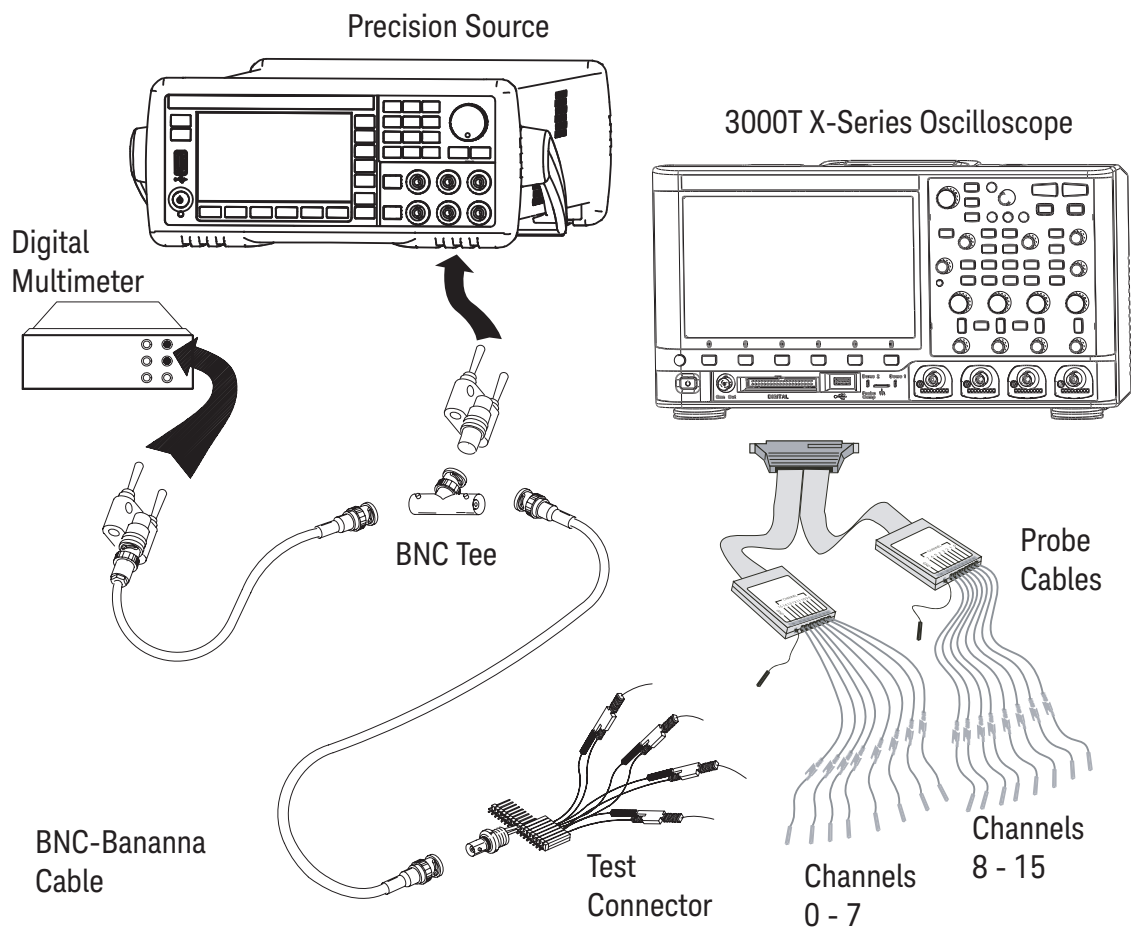

Figure 2 Setting Up Equipment for Digital Channel Threshold Accuracy Test
- 3** Use the 8-by-2 test connector and the BNC cable assembly to connect digital channels D0-D7 to one side of the BNC Tee. Then connect the D0-D7 ground lead to the ground side of the 8-by-2 connector. See **Figure 2**.
- 5 Connect the BNC Tee to the Channel 1 output of the precision source as shown in **Figure 2**.